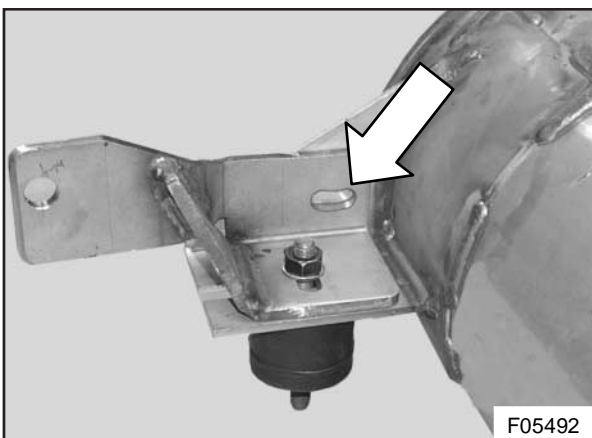

Figure 6 : Position of support bracket on muffler
- 2) Trial fit the support bracket as shown in Figure 6. Make sure the cooling system hose clamps do not interfere with the bracket. Correct, if necessary. Mark the slot outline indicated by the arrow on the muffler support with a scribe. Remove the support bracket.